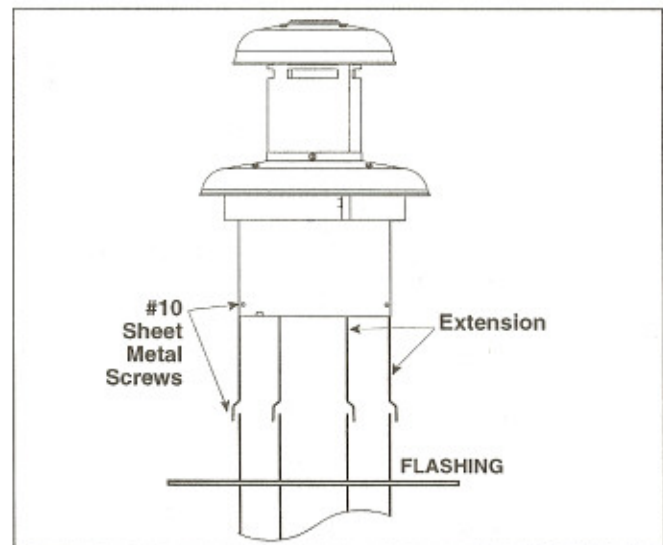

Figure 3.
3. Re-attach previously removed roof jack assembly to newly installed extension pipes. Be sure both pipes slide and seat onto the mating pipes in the roof jack assembly. Secure the roof jack assembly in place onto the outer combustion air pipe as originally installed using 3 #10 sheet metal screws. See Figure 3.